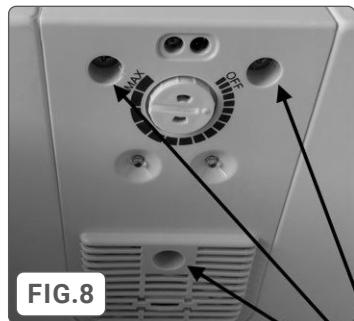

FIG.8
- **REPLACE THE BATTERY FOR ELECTRONIC SPARK IGNITION (FIG.8, 9 & 10)**
If the battery ignition fails to spark, it will need replacing as per the steps below. Locate the battery box on the back of the unit. Remove the fixing screws with a screwdriver to remove the casing (fig.8 & 9). Replace the old battery with a new one (1.5V) and replace the casing.